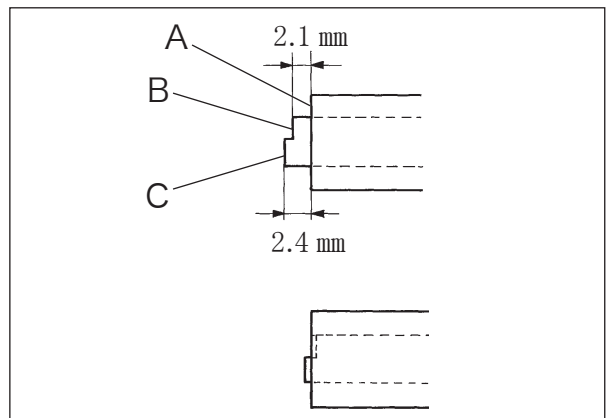
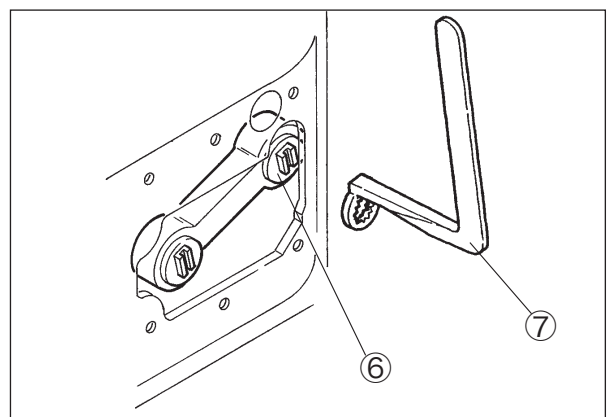

Fig. 1-8
Fig. 1-9
- (4) Adjust so that when you rotate the pulley to move the looper rocker shaft to the foremost position, end face A of the bearing ③ comes between end faces B and C of the plunger ② . (Fig. 1-8)
- If end face B of the plunger ② is aligned with end face A of the bearing ③ , the back and forth moving amount of the looper ⑤ is 2.1 mm.
- If end face C of the plunger ② is aligned with end face A of the bearing ③ , the back and forth moving amount of the looper is 2.4 mm.
- (5) To perform adjustment, remove the sewing cylinder cover (left), loosen the screw ⑥ at the front of the looper avoid connecting rod with the offset box wrench ⑥ , and move the screw ⑥ up or down. (Fig. 1-9)